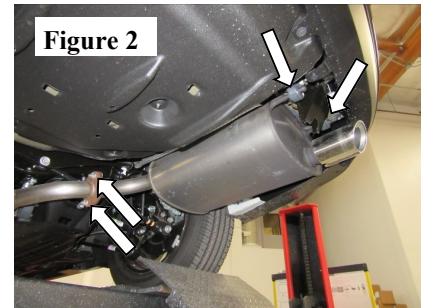

Figure 2
2. Begin removal on the right-side muffler, loosen and remove the nuts on the rear flanges. Carefully remove the hangers from the rubber isolators and remove the muffler assembly from the vehicle. Keep hardware for installation of your new exhaust. (See Figs. 2 & 3)